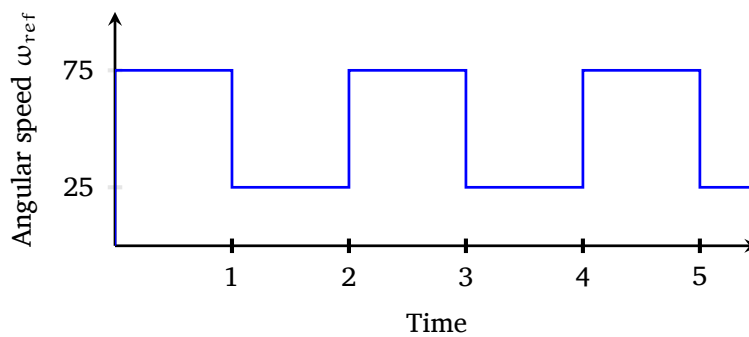
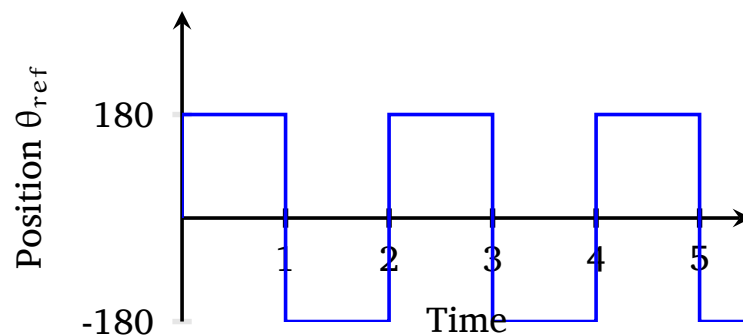

Figure 2 Reference angular speed of the rotor.
Figure 3 Reference position of the rotor.
Suppose that we want to design two different controllers in order to command the QNET DC MOTOR system to follow reference signals ω_{ref} and θ_{ref} given Figure 2 and in Figure 3 below.
- Define time interval from 1 to 5 with increments 0.01 and produce the reference signals in Figure 2 and Figure 3.